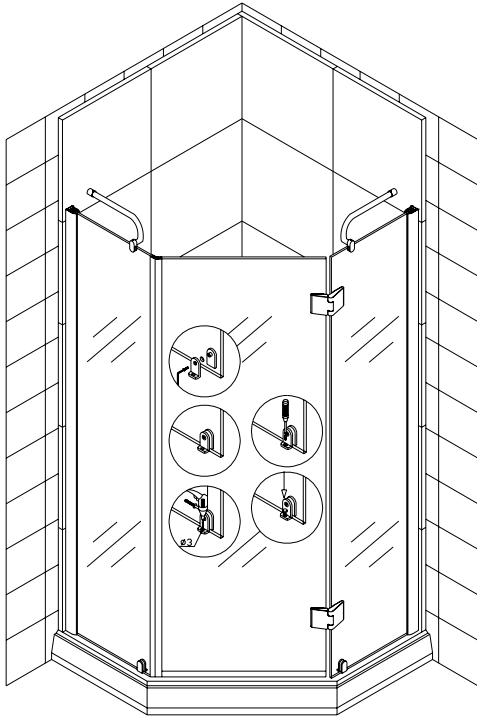

Fig 7
8. Adjust glass door and the bracket assemblies; make sure the glass door collaborate with the stationary glass (fig 7).